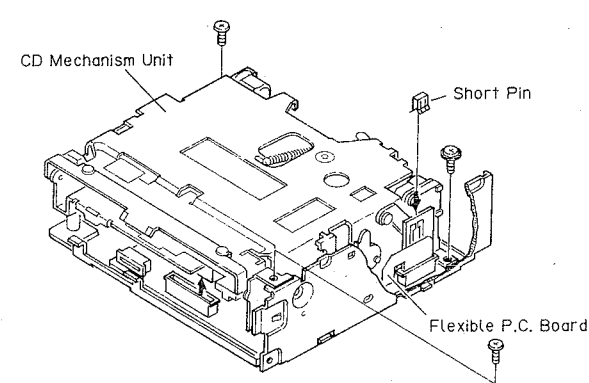

Fig. 10
2. For pickup unit (CGY1007) handling, please refer to "Disassembly" (Fig. 10). During replacement, handling precautions shall be taken to prevent an electrostatic discharge (protection by a short pin).